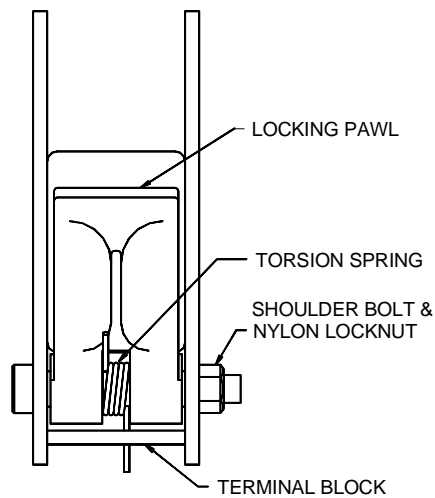

Fig 11
14. Install locking pawl and torsion spring on the *Idler Column* as shown in **Fig 11** below.